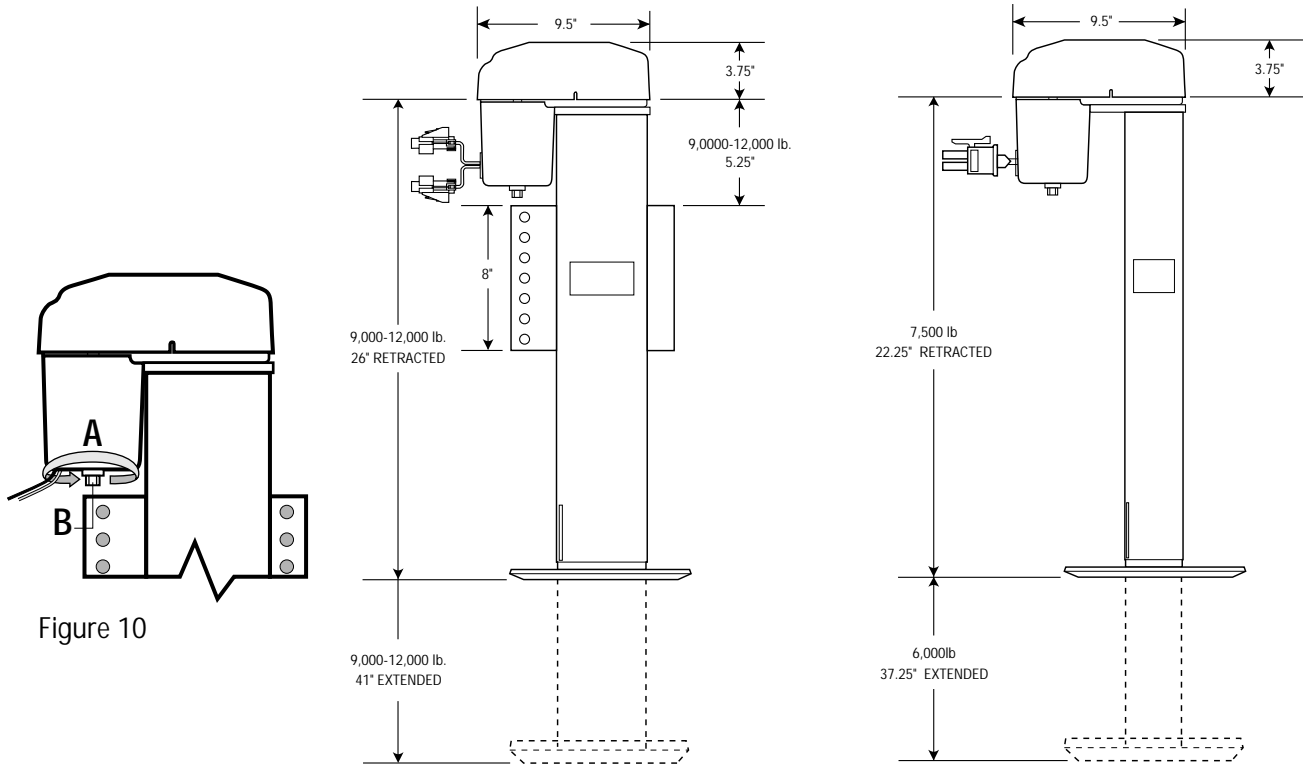

Figure 10
- To Manually Extend or Retract Leveler, use a 1/2" socket on Drive Nut on end of motor (FIG 10-A). Rotate nut counter clockwise (looking from bottom end of nut [FIG 10-B]) to extend leveler.